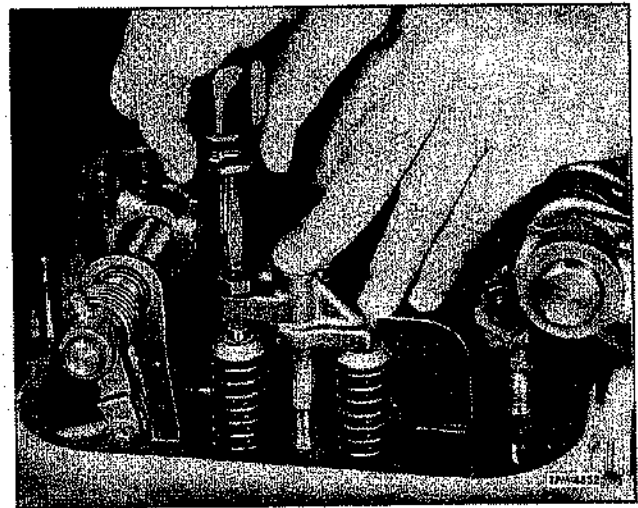

Figure 2—Adjusting Valve Bridge (4-Valve Head)
5. Press straight down on the pallet surface of bridge (fig. 2). Turn adjusting screw until it just touches the valve stem, then turn screw an additional $\frac{1}{8}$ to $\frac{1}{4}$ turn and tighten lock nut finger tight.